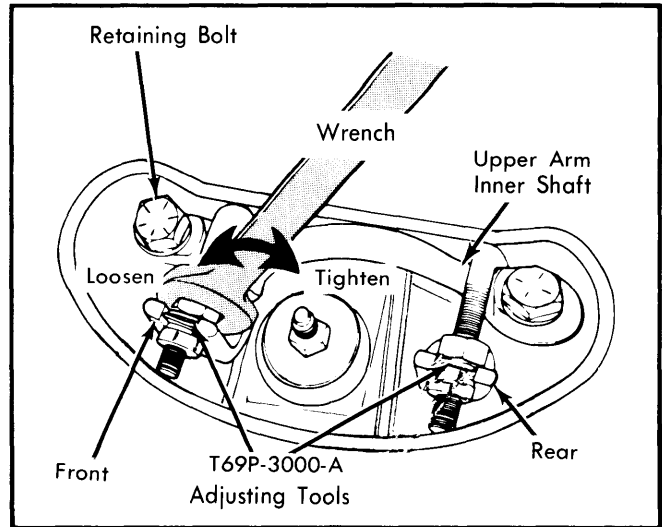

Fig. 12 Caster & Camber Adjustment All Other Models
1) Install alignment tools (T69P-3000-A) into frame holes and tighten tools fingertight against upper arm inner shaft. Then, using a wrench, tighten an additional turn. Loosen bolts attaching upper arm inner shaft to frame. Firmly tap bolt heads to loosen lower assemblies. See Fig. 12.